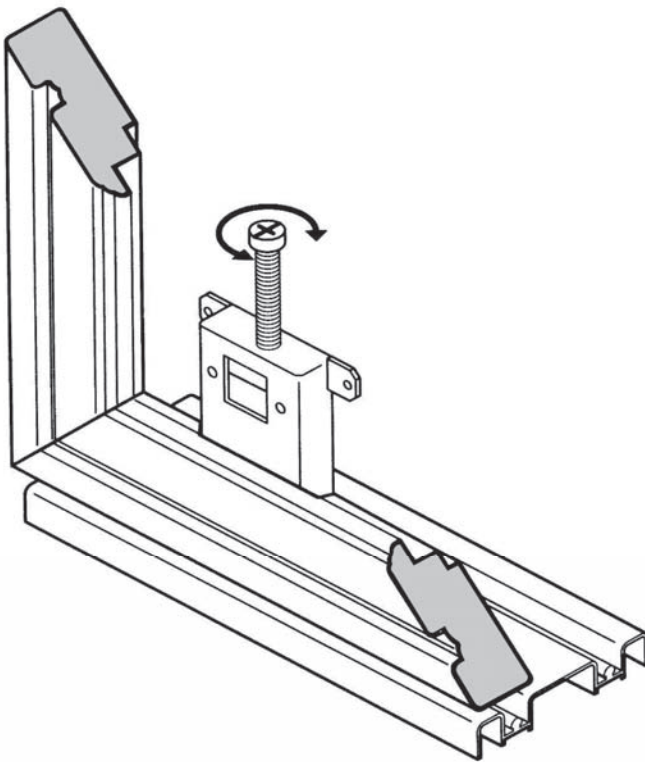

Figure 4
- A. Slide the front Panel (#1) to the side closest to the entrance door. Look at the space between the door edge and wall. You want the door edge and wall to be flush. If you see space at the top or bottom edge of Panel (#1), turn the adjusting screw on top of the Steel Wheel Assembly (#12) on the lower back of the panel nearest the wall. Turn the screw left or right until the Panel (#1) is flush with the wall (See Figure 4).